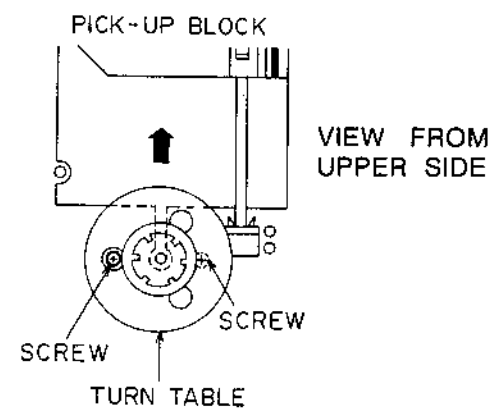

Fig. 4.5
- 3) Remove two fixation screws of the SPINDLE MOTOR through the hole on the TURNTABLE as shown Fig4-5.